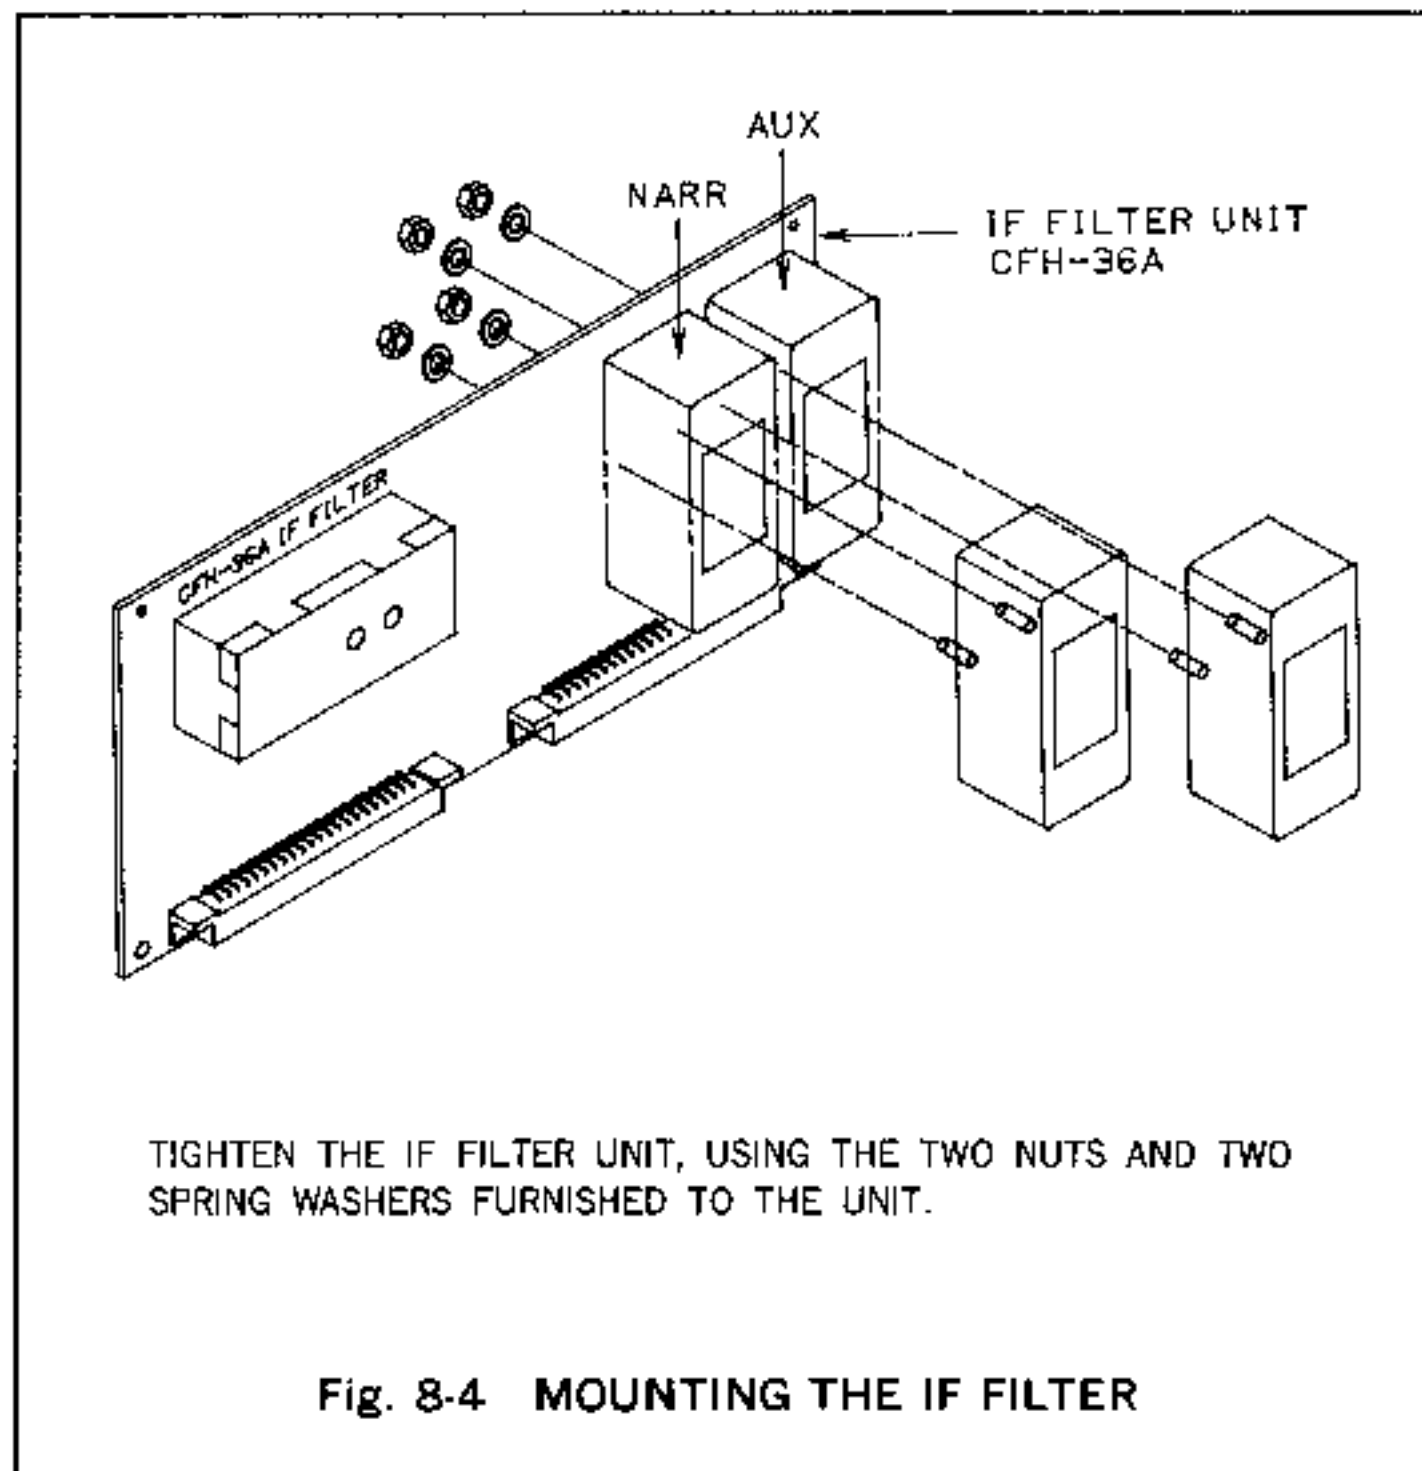

Fig. 8-4 MOUNTING THE IF FILTER
- 3) Mount the IF filter according to Fig. 8-4.